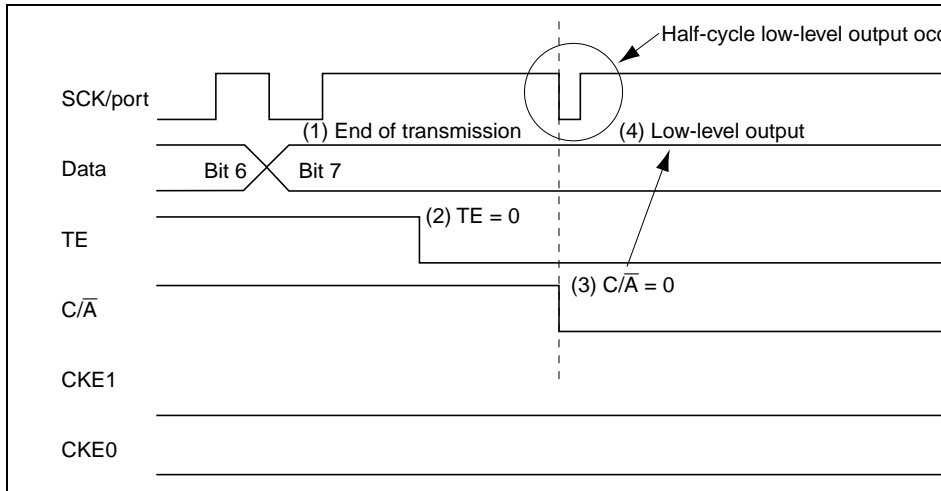

Figure 11.23 Operation when Switching from SCK Pin Function to Port Pin
- (1) End of serial data transmission
- (2) TE bit = 0
- (3) $\overline{C/\overline{A}}$ bit = 0 ... switchover to port output
- (4) Occurrence of low-level output (see figure 11.23)